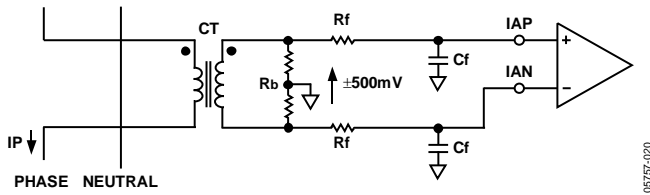

Figure 20. Typical Connection for Current Channels
Figure 20 shows a typical connection diagram for the current channel (IA). A current transformer (CT) is the current transducer selected for this example. Notice the common-mode voltage for the current channel is AGND and is derived by center tapping the burden resistor to AGND. This provides the complementary analog input signals for IAP and IAN. The CT turns ratio and burden resistor Rb are selected to give a peak differential voltage of ±500 mV at maximum load.